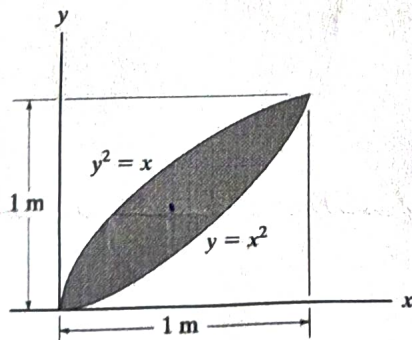

Fig 3
- Q.3. Locate the centroid of the shaded region of Fig 3. (03)